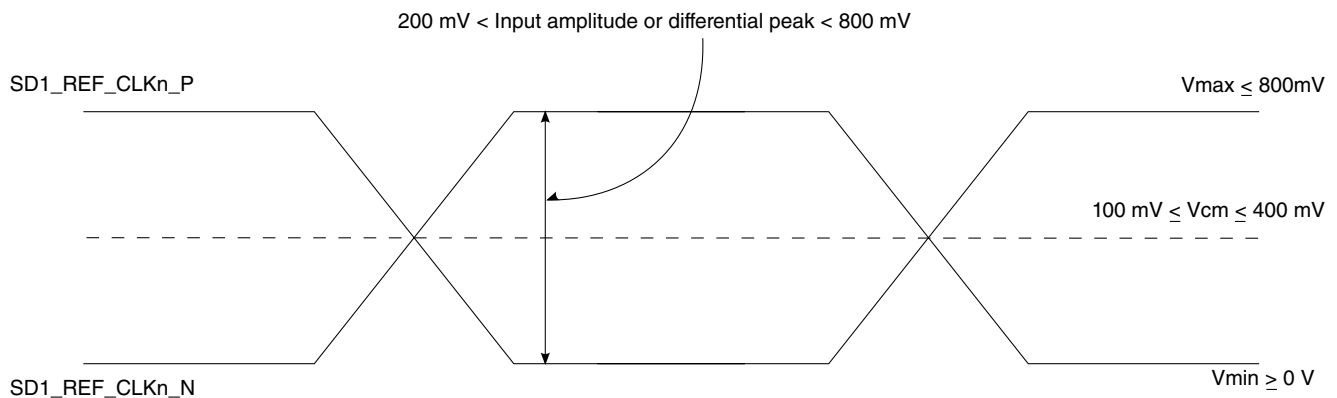

Figure 63. Differential reference clock input DC requirements (external DC-coupled)
- For an external DC-coupled connection, as described in SerDes reference clock receiver characteristics, the maximum average current requirements sets the requirement for average voltage (common mode voltage) as between 100 mV and 400 mV. Figure 63 shows the SerDes reference clock input requirement for DC-coupled connection scheme.